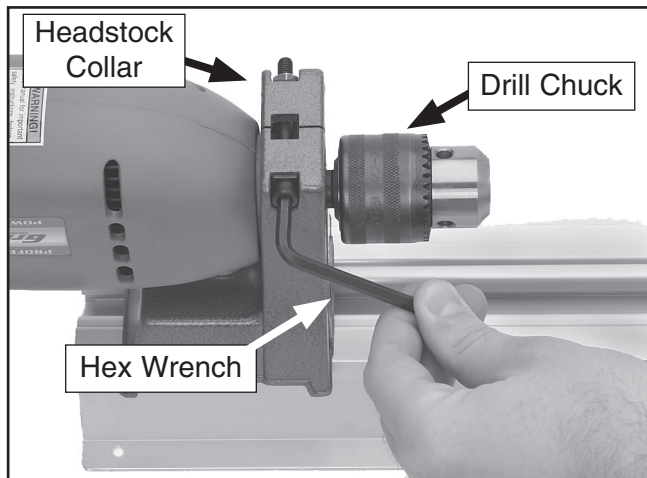

Figure 6. Clamping the drill to the headstock.
3. Use the provided hex wrench to clamp the electric drill in the headstock collar as shown in **Figure 6**.